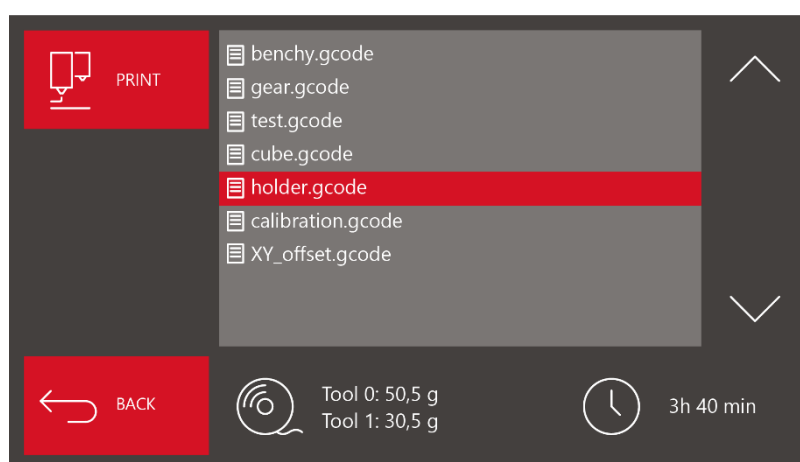

Fig. 20 SD card manager screen
**PRINT** – displays the screen of the SD card manager, in which the files for printing (G-code) saved on the card are available - .gcode (fig. 20).